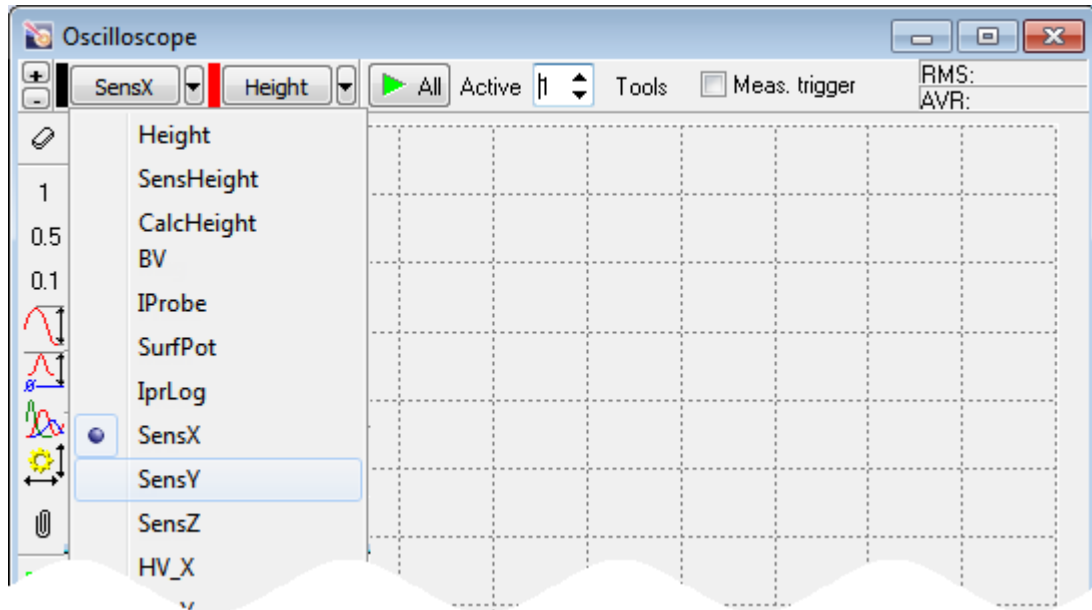

Fig. 1-4
4. In the oscilloscope window ( button) select first **Sens X** (Fig. 1-4), and then **Sens Y** for the signal to be recorded. Check the RMS values of the **Sens X** and the **Sens Y** signals. The RMS values shall be about 0.0002 V.